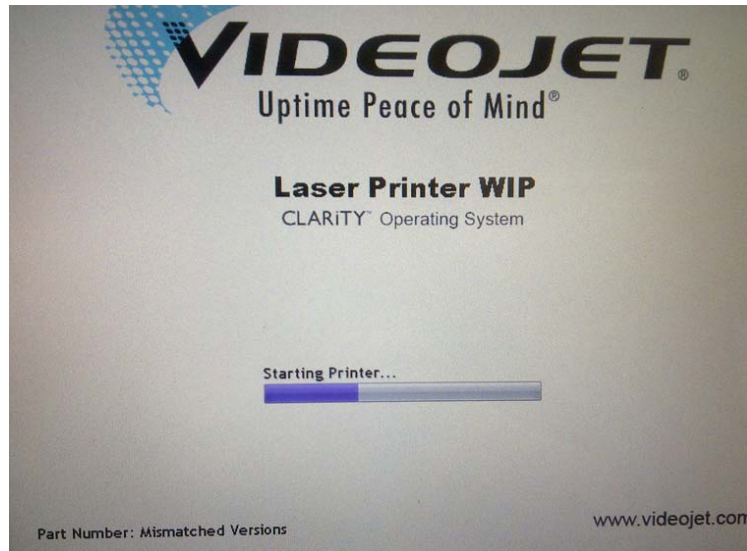

Figure 5-1: CLARiTY Startup Screen
- 1 Turn the controller mains power switch ON. The CLARiTY startup screen appears (see Figure 5-1).